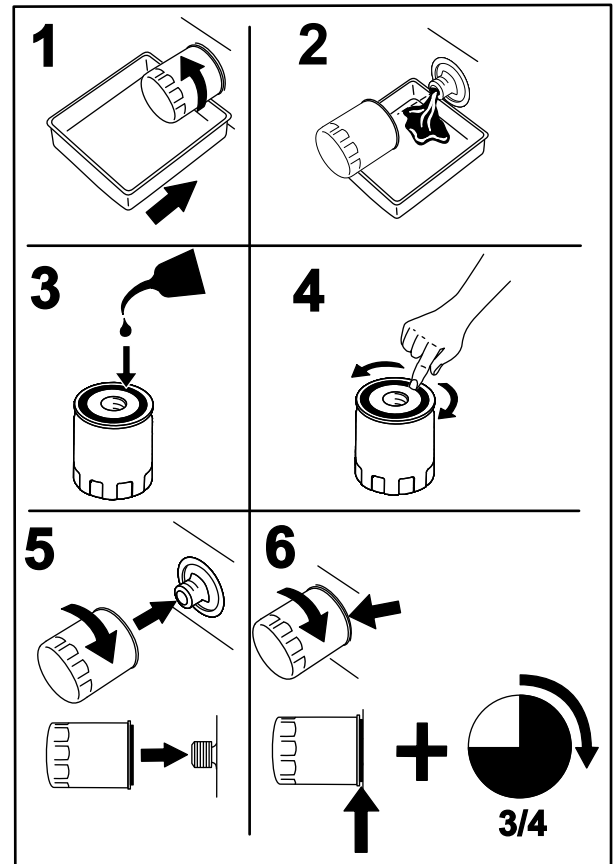

Figure 47
- Change the engine-oil filter (Figure 47).